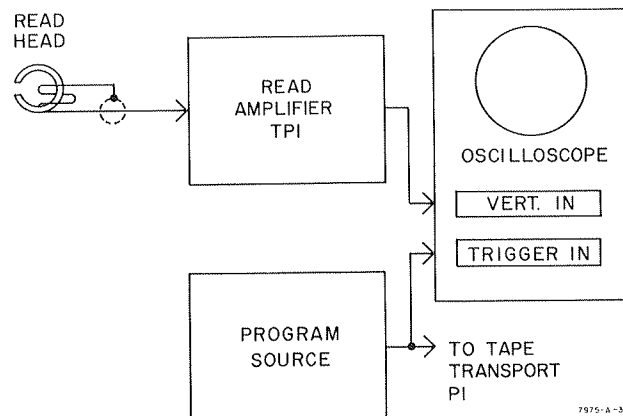

Figure 5-2. Start-Stop Time and Distance Test Setup
a. Connect test equipment as shown in figure 5-2. Adjust oscilloscope to trigger on the externally generated leading edge of the drive command. Adjust horizontal sweep time to 1 ms/cm.
c. Connect test equipment as shown in figure 5-2. Adjust oscilloscope to trigger on the externally generated leading edge of the drive command from the program sources. Adjust horizontal sweep time to 0.5 ms/cm.